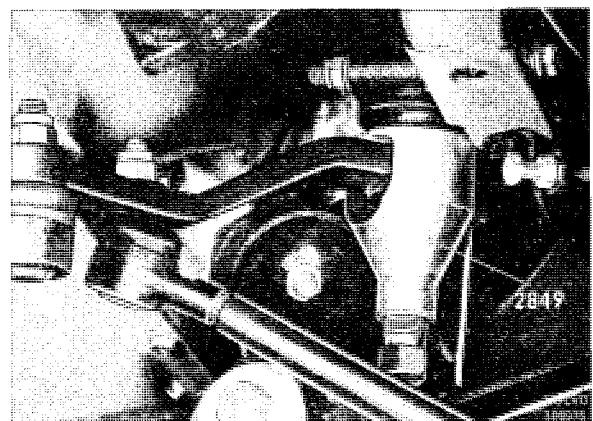

Fig. 6-64. Removing pitman arm
- a) Remove the lock nut for the pitman arm. Pull the pitman arm off with tool 2849. When fitting the puller, turn the wheels fully to the right, see Fig. 6-64.
3. Remove the lock nut for the pitman arm. Pull the pitman arm off with tool 2849. When installing the puller, turn the wheels fully to the right, see Fig. 6-64.